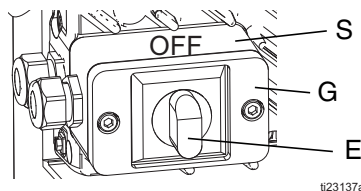

FIG. 3: Power Switch
- Bring cord to unit and remove two screws to separate junction box cover (G) and power switch (E) from remainder of sprayer. See **FIG. 3**.
6. Turn power switch (E) OFF. Connect unit to power source. See FIG. 3, page 6.